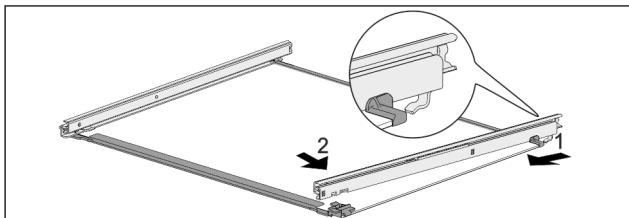

Fig. 121 Glass shelf with rails
- ▶ Hook in rail at the back. *Fig. 121 (1)*
- ▶ Hook in rail at the front. *Fig. 121 (2)*